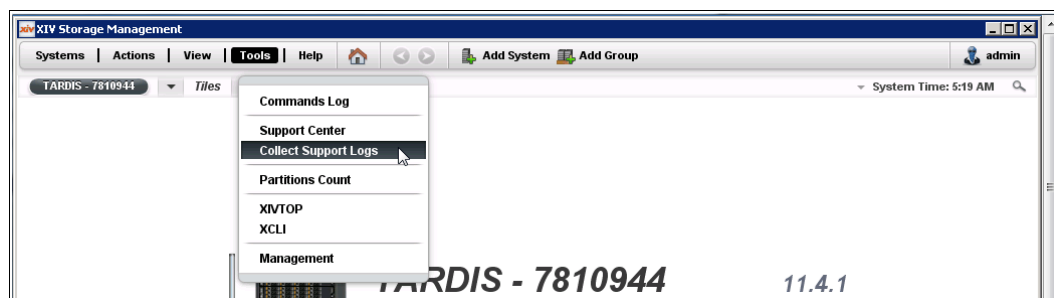

Figure 15-11 XIV Storage Management
2. Click **Tools**  **Collect Support Logs**, as shown in Figure 15-11.